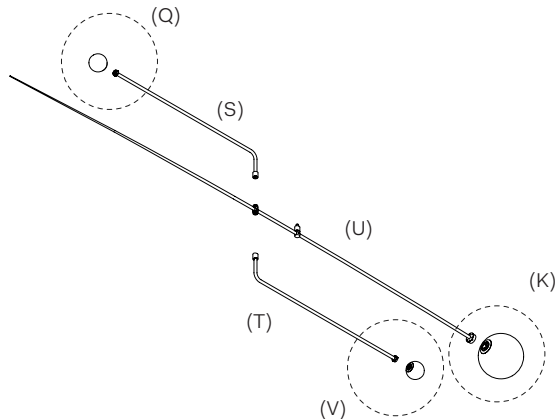
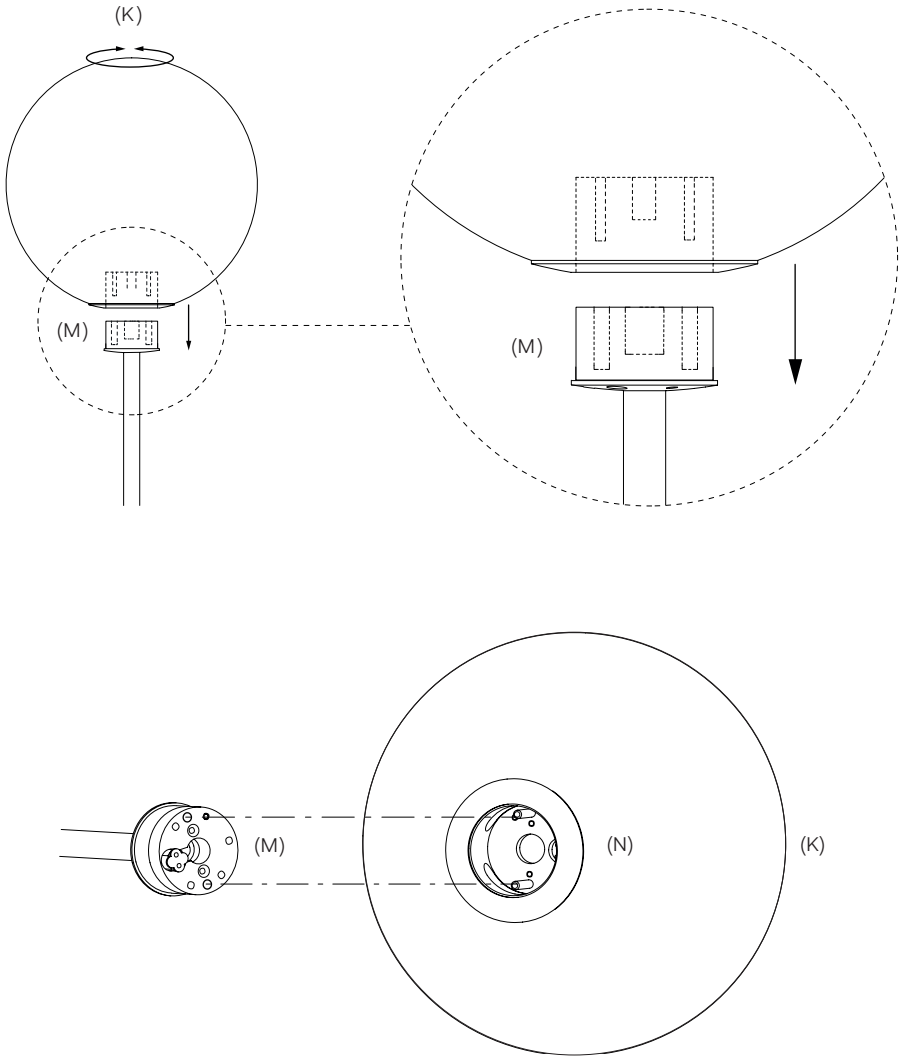

Fig. 14
Fig. 15
Secure the Large Glass Sphere 1 (K) with the supplied M2×20 screw and hex key, ensuring it is tight to keep the connectors flush. See Fig. 14 and Fig. 15.